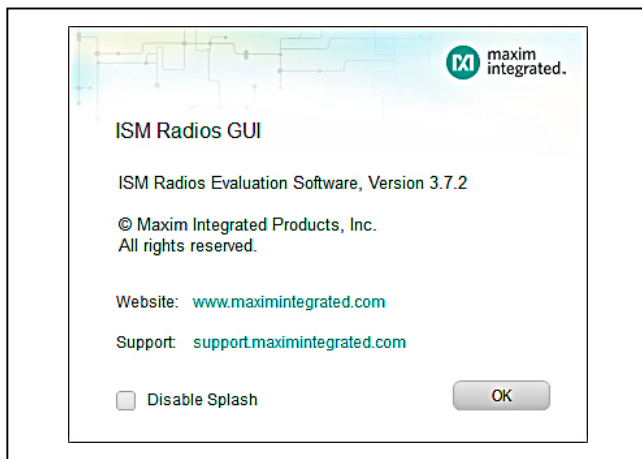

Figure 3. ISM Radios GUI Splash Screen
- a) A GUI splash screen is displayed, as shown in Figure 3.